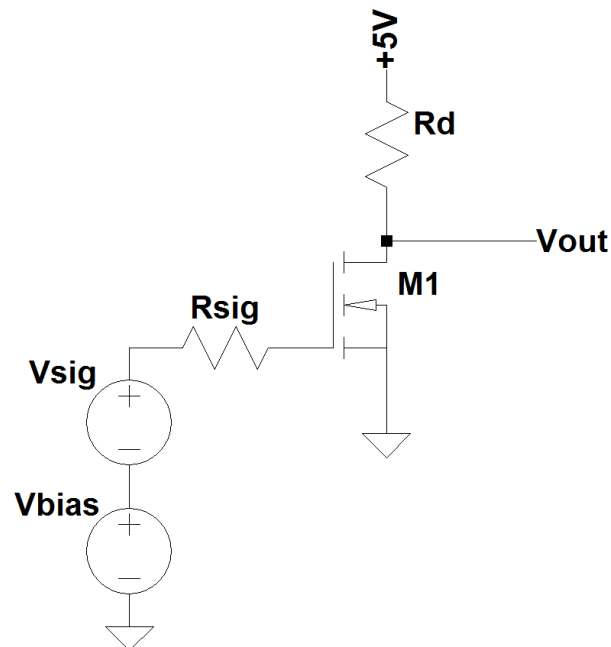

Figure A4: A SPICE model of a common source amplifier.
Figure A4 shows a common source amplifier. The amplifier operates with a transconductance of $g_m = 1.5\text{mS}$. The parasitic gate-source and gate-drain capacitances are: $C_{gs} = C_{ds} = 10\text{fF}$.
- a. The bias voltage, V_{bias} , in **Figure A4** could be realised using a potential divider. Explain why this is not the ideal solution and give an example of a situation where it may cause a problem. Suggest an alternative method that could be used to bias the amplifier. (5)
- i) Draw the small signal model of the amplifier in **Figure A4**. Use the ‘ π ’ model for transistor M1 and include the dominant parasitic capacitances in your drawing. (5)
- ii) The amplifier has a drain resistance $R_d = 5\text{k}\Omega$. Use this value and your small signal model to calculate the midband gain of the amplifier. Explain any assumptions you make in this calculation. (3)
- iii) Calculate the two Miller capacitances for this amplifier and describe where they would appear in your small signal model (e.g. ‘between the drain and source of M1’, ‘between the source of M1 and ground’ or similar). (3)
- iv) Calculate an approximate upper cutoff frequency for the amplifier when a source is connected whose output resistance, R_{sig} , is $100\text{k}\Omega$. State any assumptions made. (4)